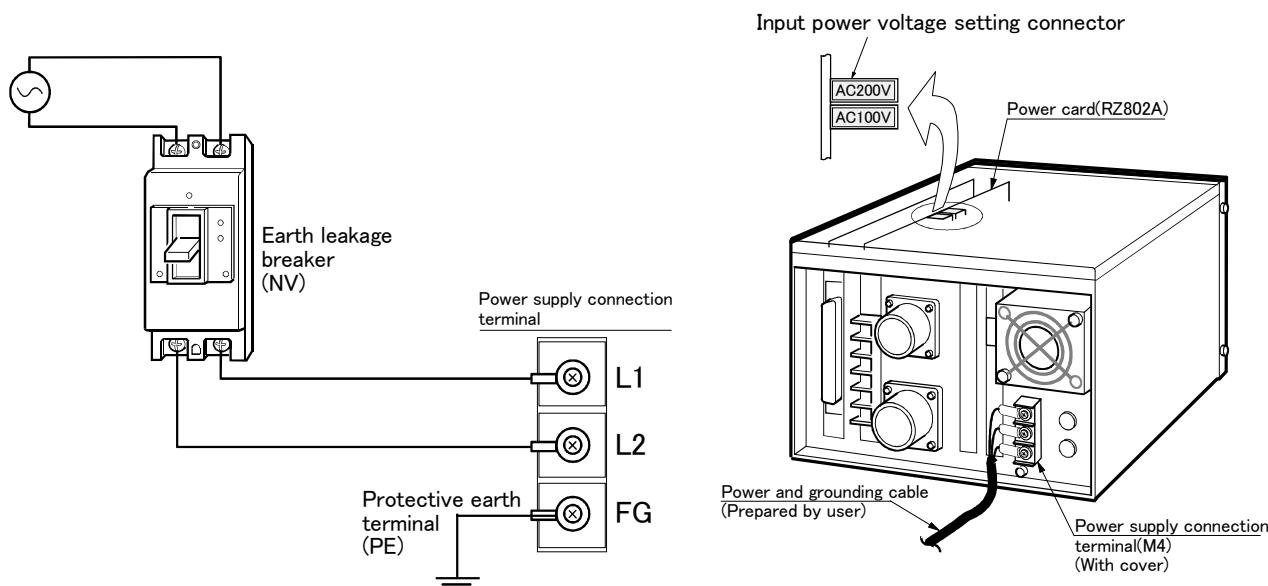

Fig.2-4 : Connecting the power cable and grounding cable
2) Set the input power voltage setting connector on the power card (RZ802A: refer to Fig. 2-4) in the controller as follows.
Insert the "input power voltage setting connector" into the connector indicated as 200VAC (CON200V: refer to Fig. 2-4) on the power card (RZ802A).
Insert the "input power voltage setting connector" into the connector indicated as 100VAC (CON100V: refer to Fig. 2-4) on the power card (RZ802A).